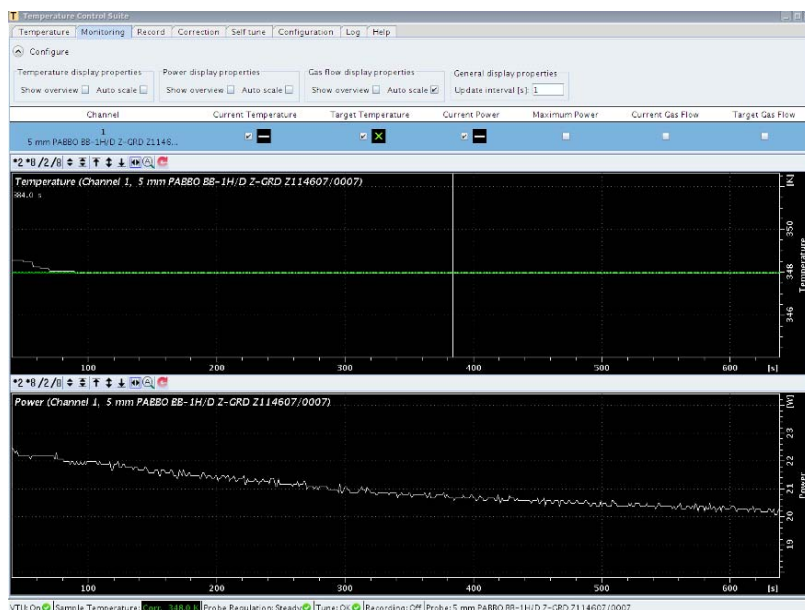

Figure 5.13 Heater power drift (lower part) after probehead sensor appears to be stable (upper part).
- Wait until the temperature sensor reaches the set temperature (within a few minutes even for a temperature step of about 50 K using regulation mode *standard* for RT probes). Wait for stable conditions of the whole system (e.g. check the heater power, lock level) and inside the sample (different from the temperature sensor status of the probe, see Figure 5.13) before you start to continue working (e.g. before you start tuning/matching and shimming).